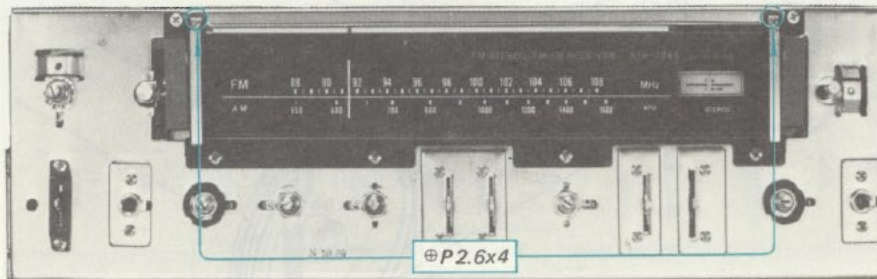

Fig. 2-11. Dial scale removal
3. Remove the two screws (\oplus P2.6x4) securing the dial-scale holder to the front subchassis as shown in Fig. 2-11.